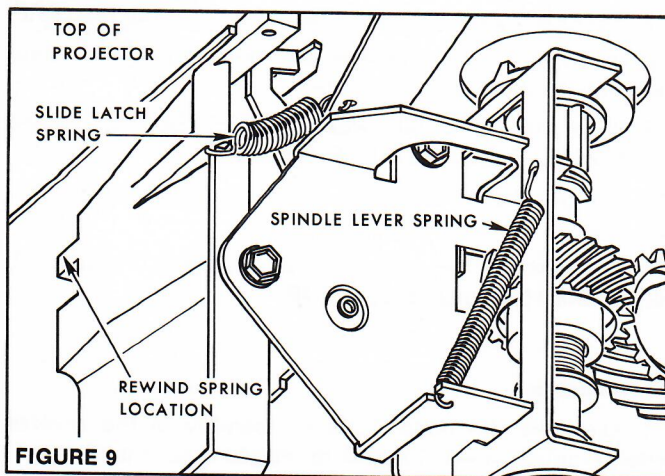

FIGURE 9
6. Remove the BRAKE RELEASE SPRING, the small REWIND SPRING, and the SLIDE LATCH SPRING. Refer to Figures 9, 10, and 11.